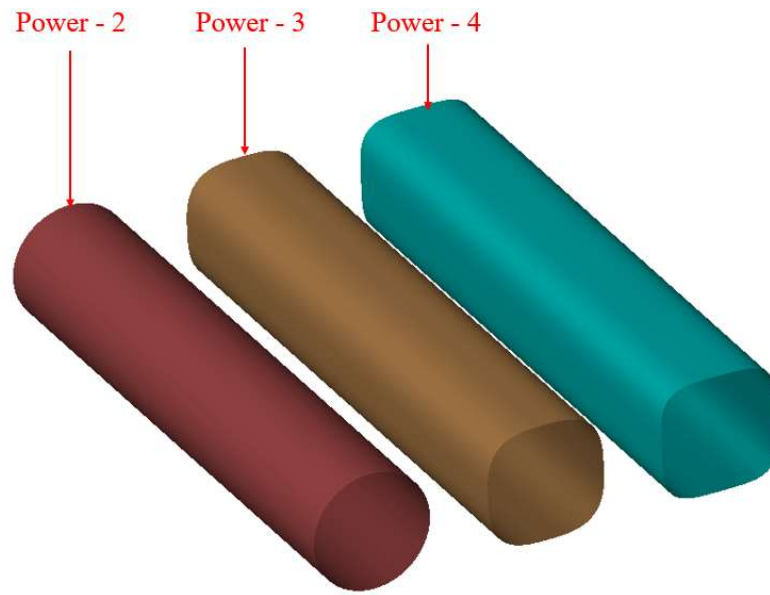

Figure 3.7: Cylinder with different power
**NOTE:** The "power" option defines the relationship that provides the shape of the built-in surface. An ellipsoid (includes cylinder, circle, ellipse) is defined by a second-order function that renders an oval shape. A super-ellipsoid is defined by a higher-order function. For a power equal to 2, according to the ellipse equation, a circle would be formed; if power is more than 2, a super-ellipsoid is formed, which looks more like a rectangular prism, as shown in Figure 3.7.